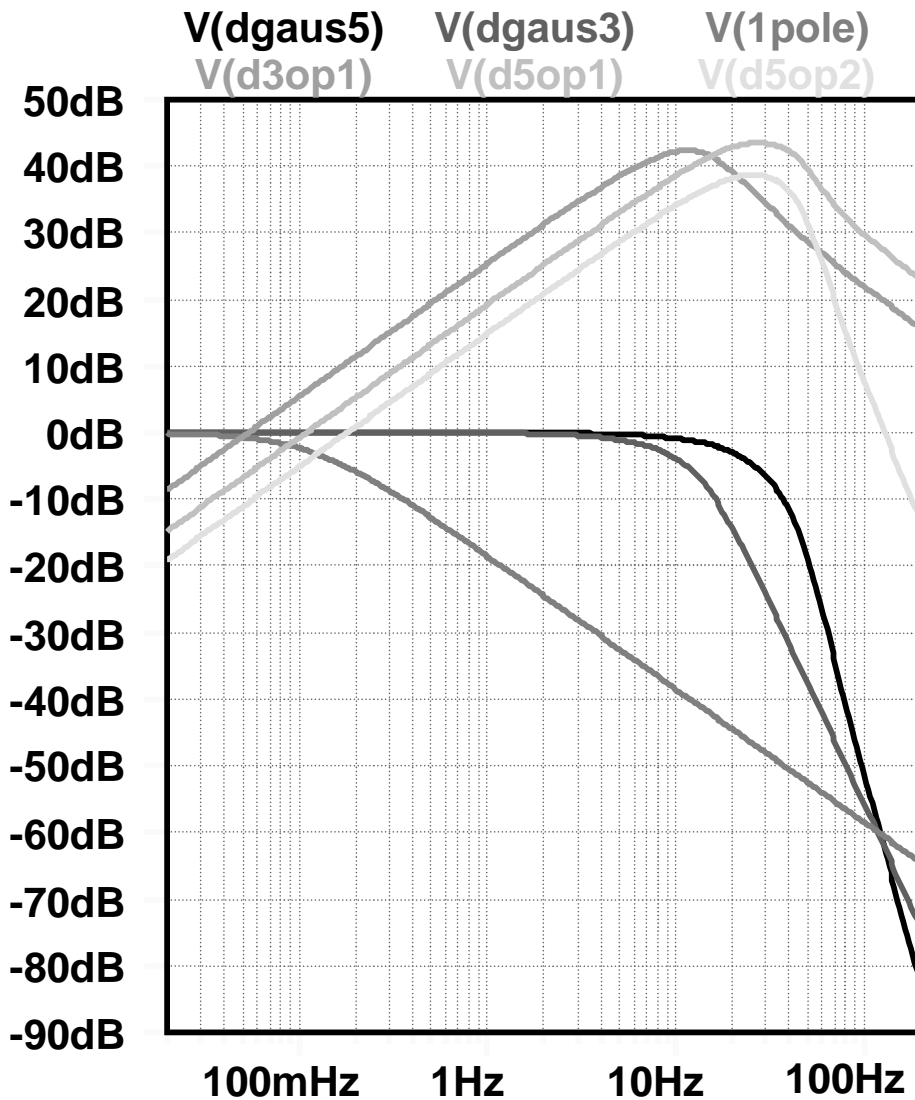

Figure 6: shows huge response peaking at figure 5’s op-amp outputs.
The capacitors in the D-elements have been set quite small (the resistor round the amplifier “takes up the slack” to create the correct D value). This ensures that the response is close to the desired value. But the hidden problem here can be revealed by looking at the gain at the op-amp outputs – and seeing the huge peak (figure 6)! Running with such small capacitor values in the almost-D-element, the gain of the hidden bandpass filter – it’s still there, even though we’re using its **input** properties to give us our lowpass response – becomes large. That’s question (3) sorted out.